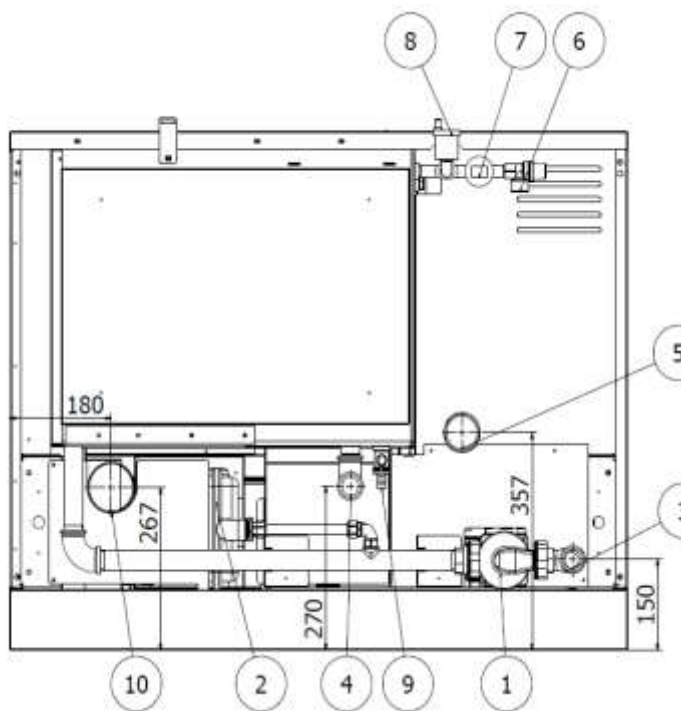

Figure 18
The back of the cooker with connections is given in Figure 18.
10.3. SAFETY VALVE (Figure 18, Position 6)
10.4. CIRCULATION PUMP (Figure 18, Position 1)
10.5. AUTOMATIC AIR-BLEEDING VALVE (Figure 18, Position 8)
10.6. EXPANSION VESSEL (Figure 18, Position 2)
10.7. TAP FOR FILLING AND DISCHARGING (Figure 18, Position 9)
10.8. WATER PRESSURE SENSOR (Figure 18, Position 7)